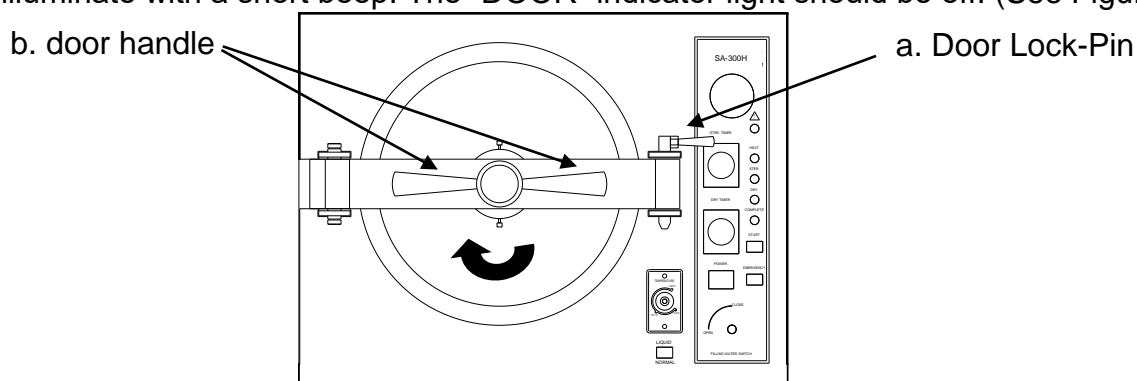

Figure 22
- Press the “POWER” switch to ON “I” position, the power indicator light should illuminate with a short beep. The “DOOR” indicator light should be off. (See Figure 22)